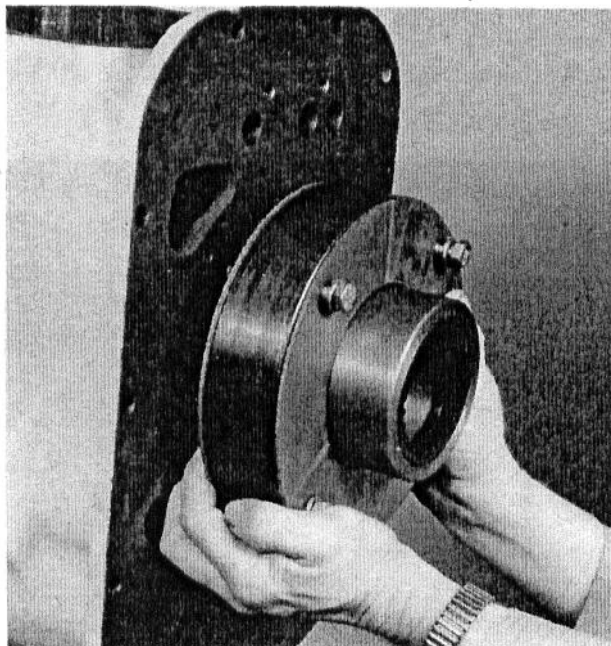

Fig. 18 - Installing Planetary Assembly on Transmission
- (3) Place rear cover, No. 1, over carrier assembly, No. 2, with oil grooves toward ring gear. The cut-out portion in the ring gear must be positioned down when installed.
- (4) Insert 4 retaining bolts through holes in ring gear.
- (5) Place front cover, No. 4, over bolts, with oil grooves toward ring gear.
- (6) Place shim, No. 5, over bolts against rear cover.
b. Hold the complete planetary assembly together and install over main shaft and against transmission housing, as shown in Fig. 18.